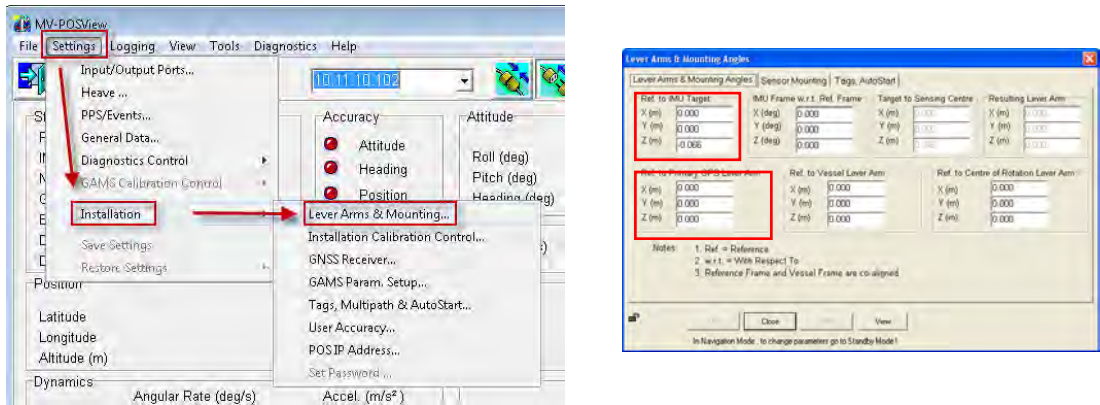

Figure 22: Lever arms & Mounting Angles tab on MV-POSView
- In the **MV-POSView** software, measure and enter the IMU and GNSS antenna offsets. The values have to be entered on the "Installation" tab ("Lever Arm & Mounting Angles") under the "Settings" list of MV-POSView (Figure 22).